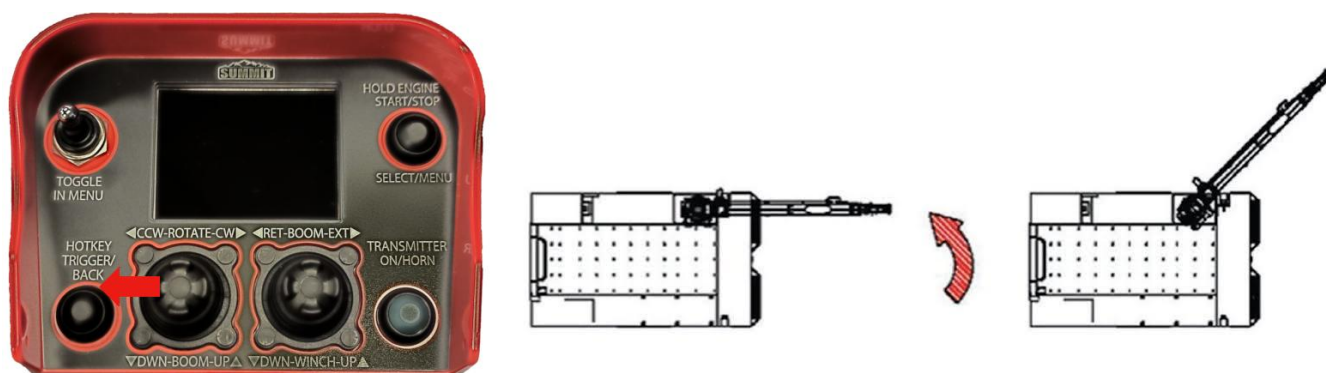

Figure 2-51.
- Press the left joystick to the left to rotate the boom counterclockwise (see Figure 2-51).